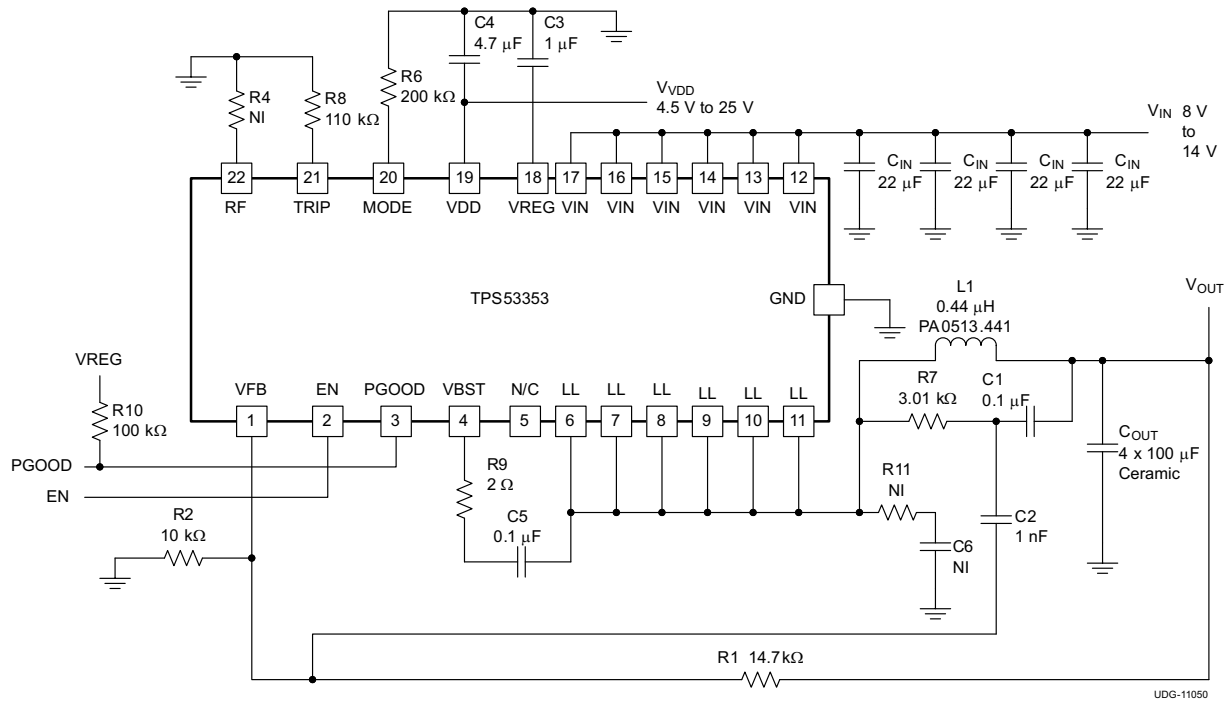

图 8-4. Typical Application Circuit Diagram With Ceramic Output Capacitors
When a ceramic output capacitor is used, the stability criteria in 方程式 6 cannot be satisfied. The ripple injection approach as shown in 图 8-4 is implemented to increase the ripple on the VFB pin and make the system stable. In addition to the selections made using Steps 1 through Step 5 in # 8.2.2.2.1, the ripple injection components must be selected. The C2 value can be fixed at 1 nF. The value of C1 can be selected from 10 nF to 200 nF.
- Connect the ripple injection V_{OUT} signal (V_{OUT} side of the C1 capacitor in 图 8-4) from the terminal of ceramic output capacitor. The AC coupling capacitor (C2 in 图 8-4) should be placed near the device, and R7 and C1 can be placed near the power stage.